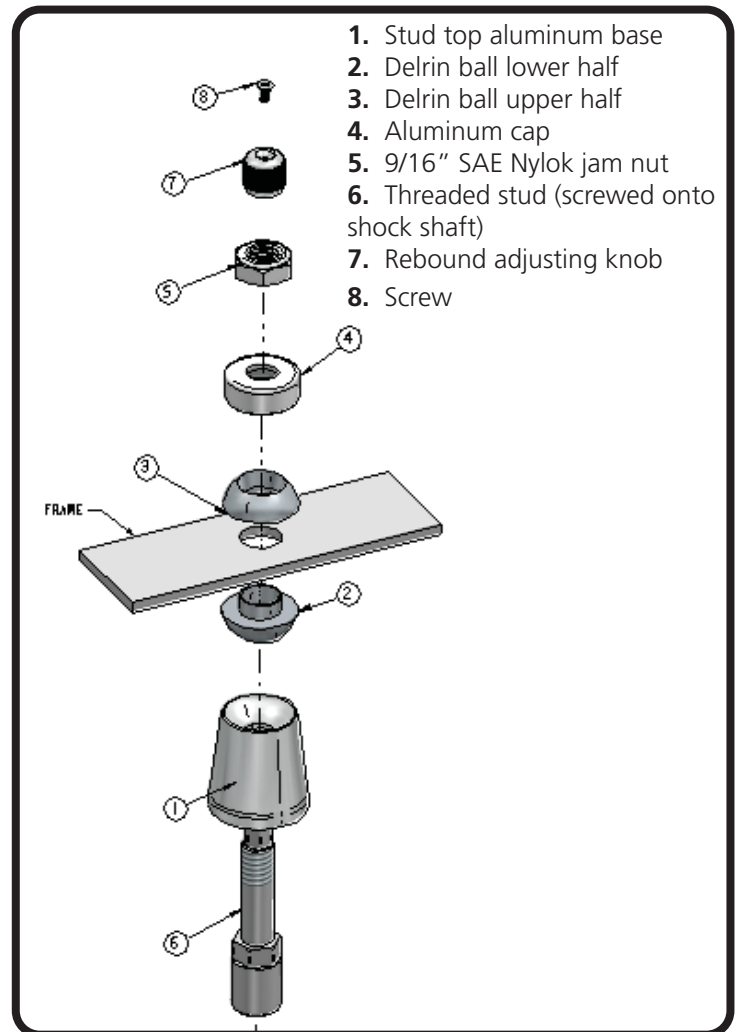

Figure 4
**5.** Place the ShockWave into the coil spring pocket with the stud sticking through the OEM shock hole. See Figure 4. The OEM shock hole must be drilled out to  $\frac{3}{4}$ ".